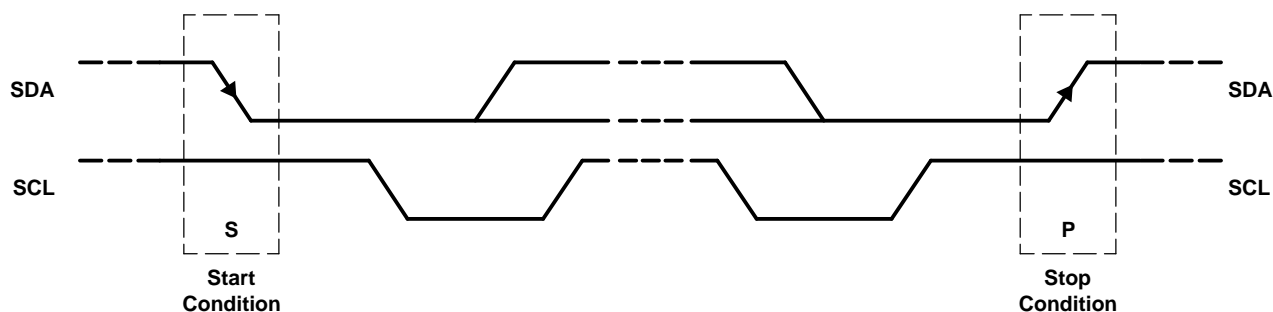

Figure 29. START and STOP Conditions
- The *master* initiates data transfer by generating a *start condition*. The *start condition* is when a high-to-low transition occurs on the SDA line while SCL is high, as shown in Figure 29. All I²C-compatible devices should recognize a *start condition*.
- To signal the end of the data transfer, the master generates a *stop condition* by pulling the SDA line from low to high while the SCL line is high (see Figure 29). This releases the bus and stops the communication link with the addressed slave. All I²C compatible devices must recognize the stop condition. Upon the receipt of a *stop condition*, all devices know that the bus is released, and they wait for a *start condition* followed by a matching address.